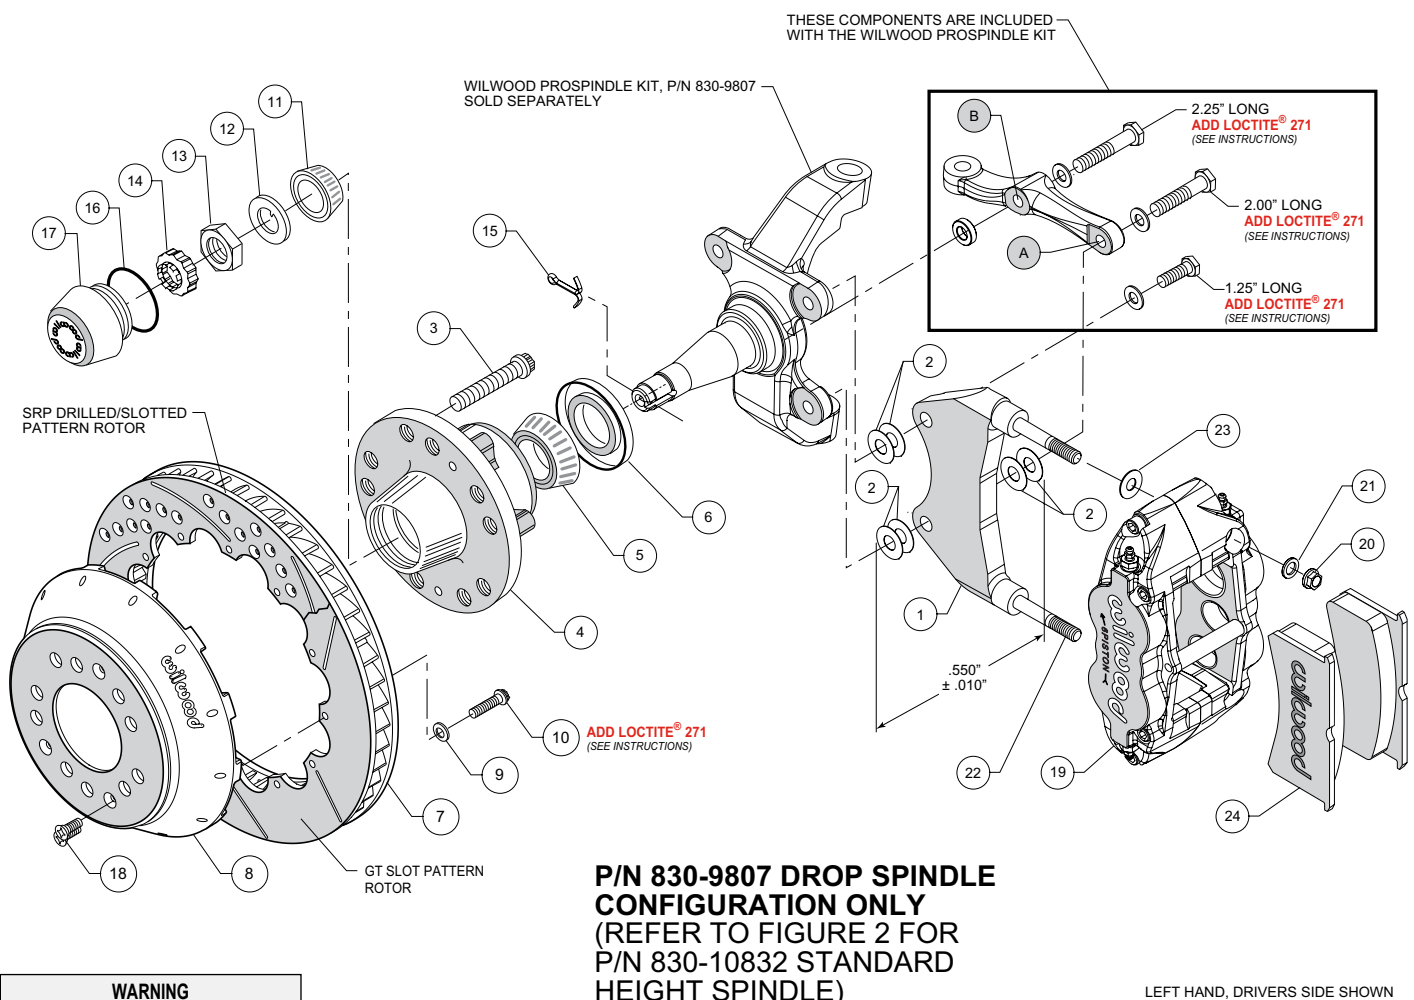
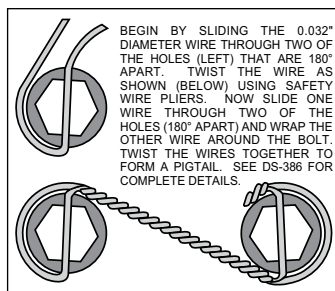

Figure 1. Installation Configuration For Drop Spindle, P/N 830-9807
Figure 4. Safety Wire Diagram
NOTE: Numbers in parenthesis refer to the parts list and Figure 1 on the preceding pages.
•**NOTE:** Each Wilwood ProSpindle kit includes bolts, washers, and a spacer to mount the steering arm and caliper bracket. The various bolts are identified by length in the following instructions and in Figures 1 and 2.
- Orient the bracket as shown in Figure 1 and Photo 1. Install at top spindle hole using 1.25" long bolt and .06" thick washer (from ProSpindle kit), and two .016" thick shims (2) between the bracket and spindle, Figure 1.
- Orient the steering arm, and identify the hole marked 'A', as shown in Figure 1. Install at bottom spindle hole using 2.00" long bolt and .06" thick washer (from ProSpindle kit), two .016" thick shims (2) between the bracket and steering arm, and another two .016" thick shims (2) between the bracket and spindle, Figure 1. The bracket is located between the steering arm and spindle. **NOTE:** The bracket and shim washers must add up to a total thickness of .550" \pm .010", Figure 1.
- Finish attaching the steering arm through the hole marked 'B', as shown in Figure 1. Install using 2.25" long bolt, .06" thick washer, and .25" thick spacer (all from ProSpindle kit), Figure 1.
- Screw dust cap (17) into hub (4). Friction created by the o-ring (16) on the dust cap keeps it from unscrewing.
- Orient the rotor (7) and the hat (8) as shown in Figures 1 or 2, and Photo 6. Attach rotor to hat using bolts (10) and washers (9). Apply red *Loctite*® 271 to the bolt threads and torque to 155 in-lb using a criss-cross pattern. For an added measure of security, the bolts may be safety wired using standard 0.032 inch diameter stainless steel safety wire as shown in Figure 4. Refer to Wilwood's data sheet DS-386 (available at www.wilwood.com/Pdf/DataSheets/ds386.pdf) for complete safety wire installation instructions.
- **NOTE:** This kit contains distinct right and left hand calipers that must be mounted in a specific direction, as described below. Initially place one .035" thick shim (24), and spacer (23) on each stud (22) as shown in Figure 1 or 2, and Photo 7. Mount the caliper (19) onto the bracket (1) using lock nuts (20) and washers (21), Figure 1 or 2. Ensure that the caliper is mounted so that the largest pistons are at the rotor exit end of the caliper, in relation to the direction of rotor rotation. Temporarily tighten the lock nuts and view the rotor through the top opening of the caliper. The rotor should be centered in the caliper, Photo 8. If not, proceed as follows:
- Adjust by adding or subtracting shims (2) between the bracket and the spindle. Always use the same amount of shims on each of the two bolts between bracket and spindle.
- For the lower bracket mount bolt, if a shim was added between the bracket and spindle, then a shim must be removed between the steering arm and bracket, such that the total thickness of bracket and shims remain equal to $.550 \pm .010$ ", Figure 1.